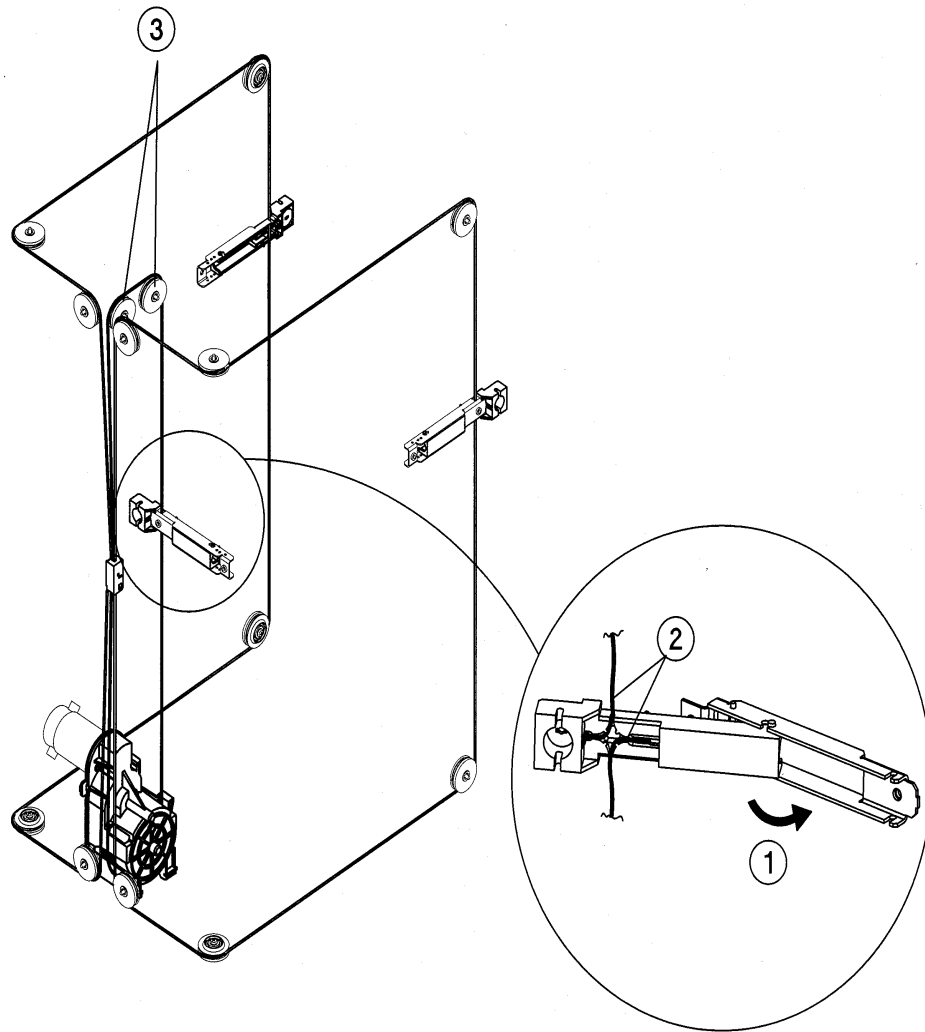

Figure 75: Opening the Tensioners to Relieve Cable Tension
3. Pull the rear tensioner upwards to raise all three tensioners up to a convenient working height (see #1 on Figure 75).
4. Release the tension on the rear rope tensioner (drive rope) using the following steps (see Figure 75):